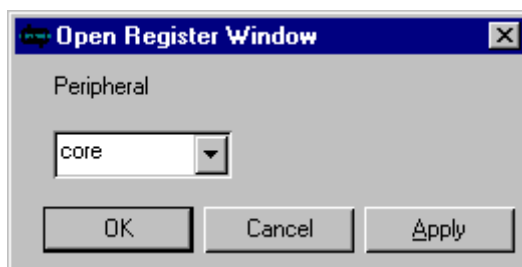

Figure 5-1. Open Register Window Dialog Box
1. From the **Windows** menu choose **Register**. The dialog box in Figure 5-1 appears.